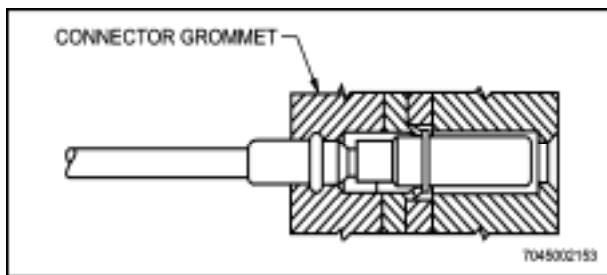

Figure 12-47 Final Connection Assembly
- j. Push the sealing boot forward into the grommet of the connector until the O-ring riser of the boot has effected its snap-in seal. (See Figure 12-47). The installation of the shielded contact is complete.